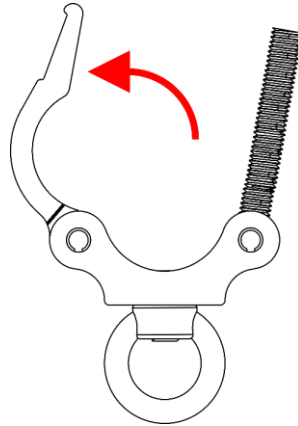

Fig. 04
- 01) Turn the **hex nut (02)** counterclockwise, to remove it.
- 02) Turn the **wing nut (03)** counterclockwise to remove it.
- 03) Open the **lock (07)**. See Fig. 04.